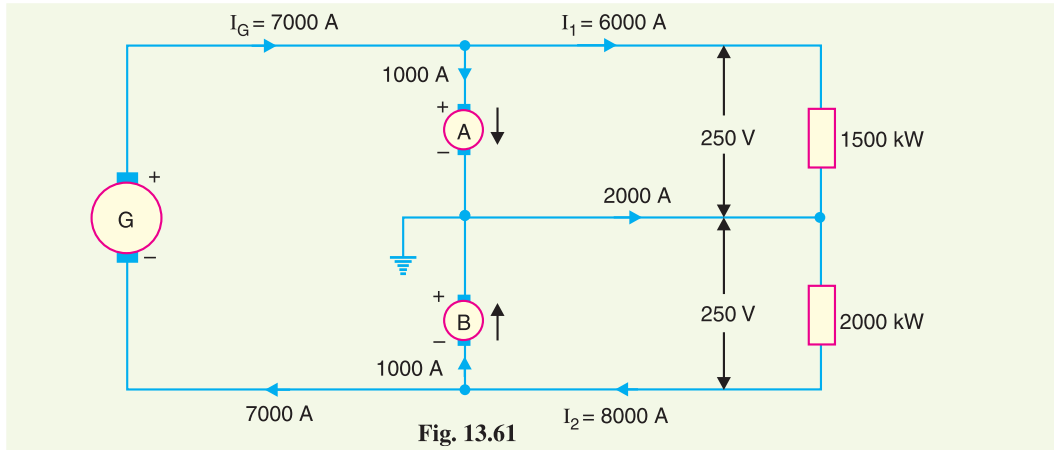

Fig. 13.61
**Solution.** The connections are shown in Fig. 13.61. As the negative side is more heavily loaded, therefore, machine *B* acts as a generator and machine *A* as a motor.